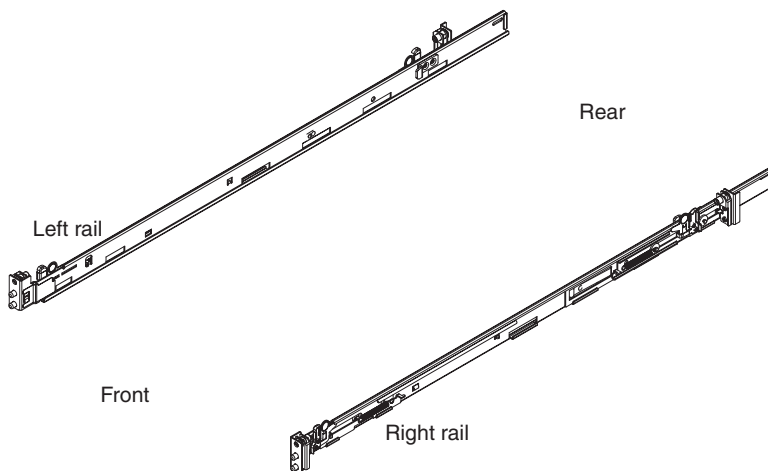

Figure 3. Proper orientation of the rails
1. Position the left and right mounting rails in the rack (as shown in Figure 3) so that the two (2) left blue tabs face the two (2) right blue tabs.